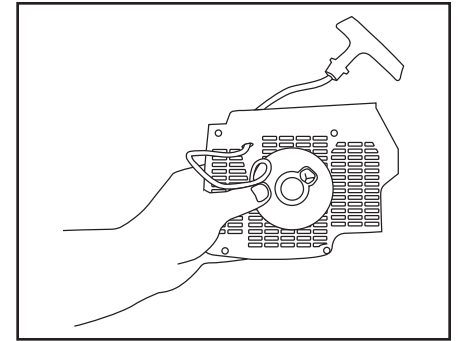

Figure 1
- Pull the rope out until the notch in the pulley has made at least two full revolutions and is at the rope inlet, then hold the pulley in place (Figure 1).